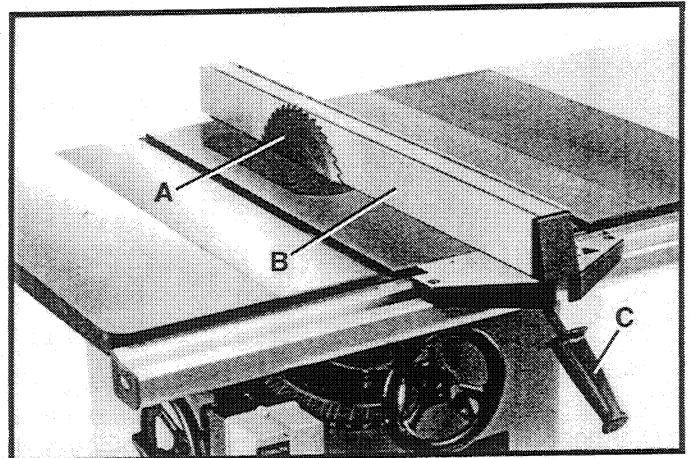

Fig. 31
1. Raise the saw blade (A) Fig. 31, to its highest position. Slide the rip fence (B) against the saw blade as shown and lock the rip fence in this position by pushing handle (C) downward.